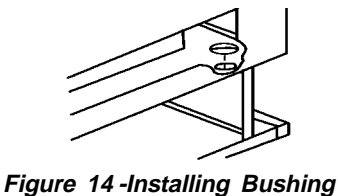

Figure 14-Installing Bushing
4. Install one rubber bushing provided in blower kit into the 1.5" hole in the left rear of firebox floor. Access hole through the rectangular opening in the rear panel (see Figure 14).